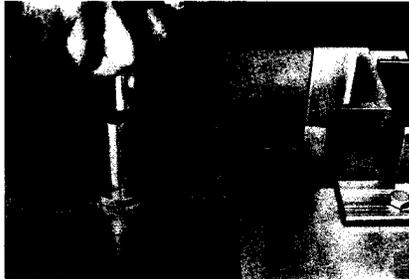

Figure 8 — Inserting Stop-Posts
6.03 Insert stop-posts in tapped holes in base of cutter corresponding to end plate diameter and hand tighten firmly (Fig. 8).